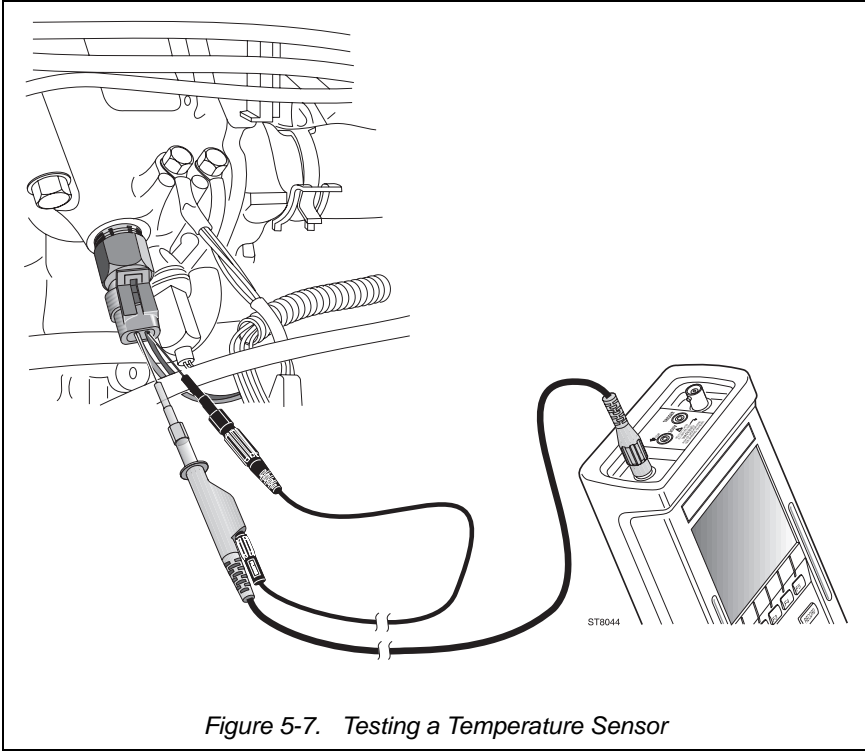

Figure 5-7. Testing a Temperature Sensor
- ③ Connect the test leads as displayed by the test tool's Connection Help and shown in Figure 5-7.
④  Start the temperature sensor test now.